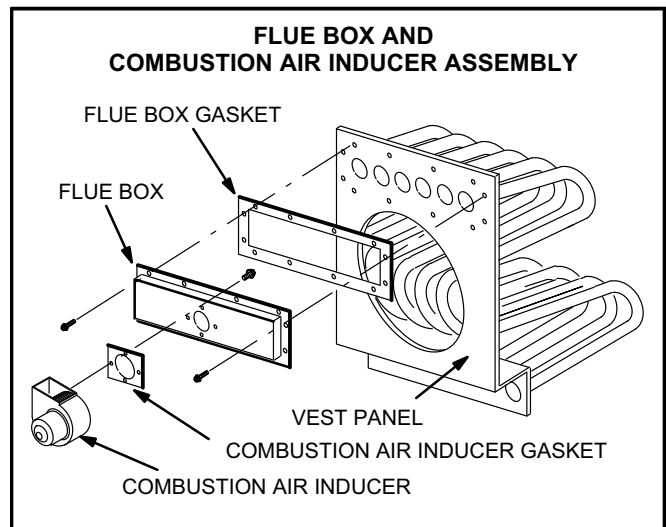

FIGURE 2
- 3 - Before making an electrical or gas connections, remove the securing screws on the flue box/combustion air inducer. See figure 2.
- 1 - All LD24 duct heaters are to be used with NFPA- or ANSI-approved chimneys or U.L.-listed type B-1 gas vents where applicable, as well as the modifications and limitations listed in figure 2. Seal single-wall vent material according to **General Recommendations and Requirements** section.